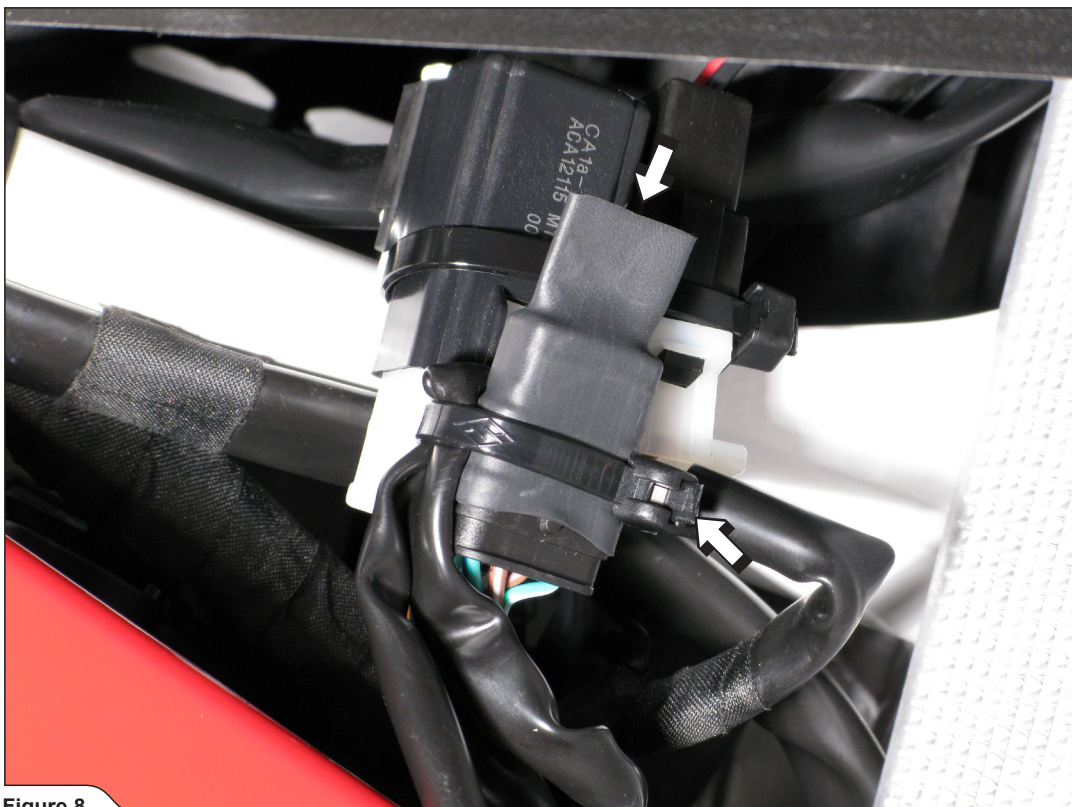

Figure 8
4. Protect the lambda sensor's connector, using heat shrinkable insulation and secure the connector and electrical wiring onto the fan relay with plastic tie wrap, as shown (**Figure 8**).